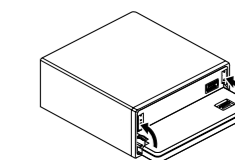

Fig. 12
**3. Flip the holders into upright positions. (Fig. 12)**